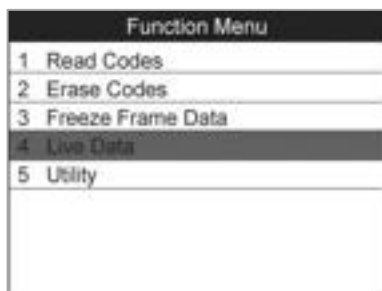

Figure 10.2
- 1) From the function menu (Figure 10.2) use the **UP/DOWN** scroll button to select **Read Codes** and press the **OK** button.
- 1) From the function menu (Figure 10.2) use the **UP/DOWN** scroll button to select **Erase Codes** and press the **OK** button.
- 1) From **Function Menu** (*Figure 10.2*) use the **UP/DOWN** scroll button to select **Freeze Frame Data** and press the **OK** button.
From the function menu (Figure 10.2) use the **UP/DOWN** scroll button to select **Live Data** and press the **OK** button.
From the function menu (*Figure 10.2*) use the **UP/DOWN** scroll button to select **Utility** and press the **OK** button. The scan tool displays function menu as below.